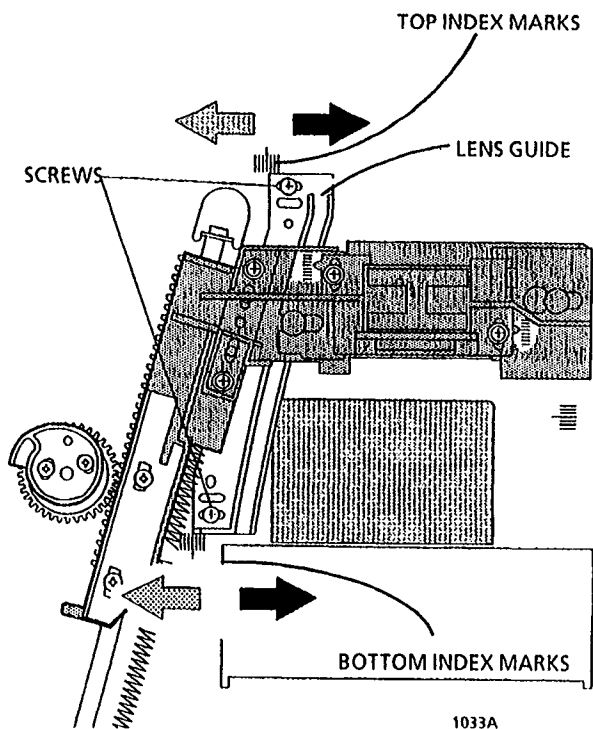

Figure 2. Adjusting the Front Edge Registration
4. (Figure 2): Loosen the two screws on the lens guide.